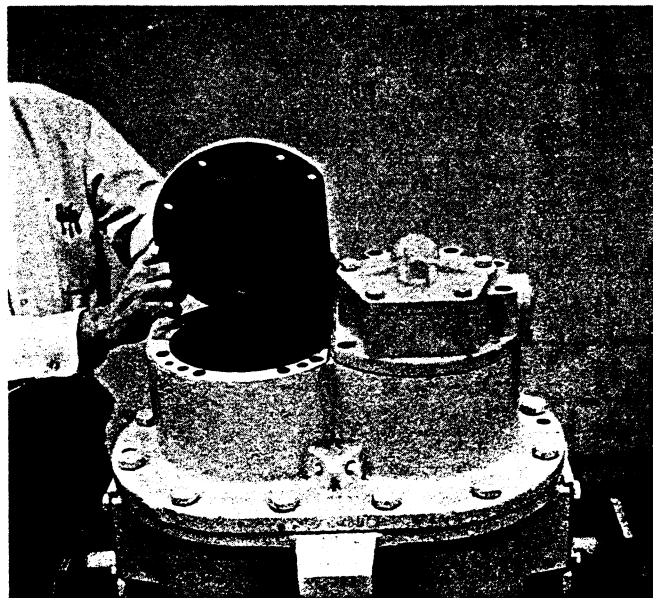

Figure 10
7. Place the rotor housing and rear bearing housing assembly in a vertical position so that the rear bearing housing may be readily removed. Remove the male rotor bearing retainer cover by first removing the attaching cap screws; then, using jack screws in the holes provided, remove it. Refer to Figure 10. Remove and discard the bearing retainer cover to rear bearing housing "O" ring and any shims that may have been used